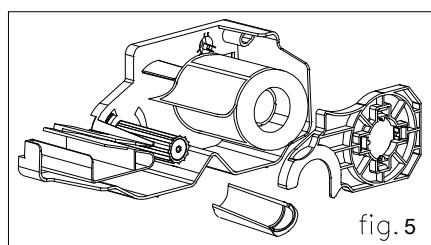

fig. 5
- 5) Place the label in the scale as fig. 5